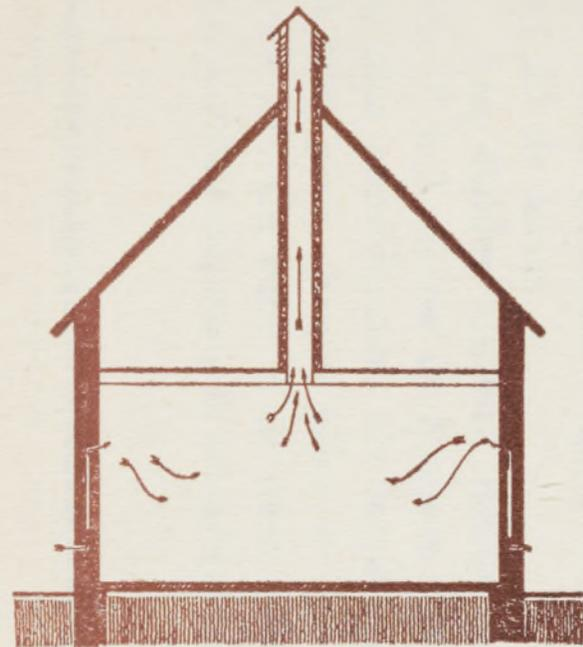

FIG. 1.
- FIG. 1. PRINCIPE DE LA VENTILATION